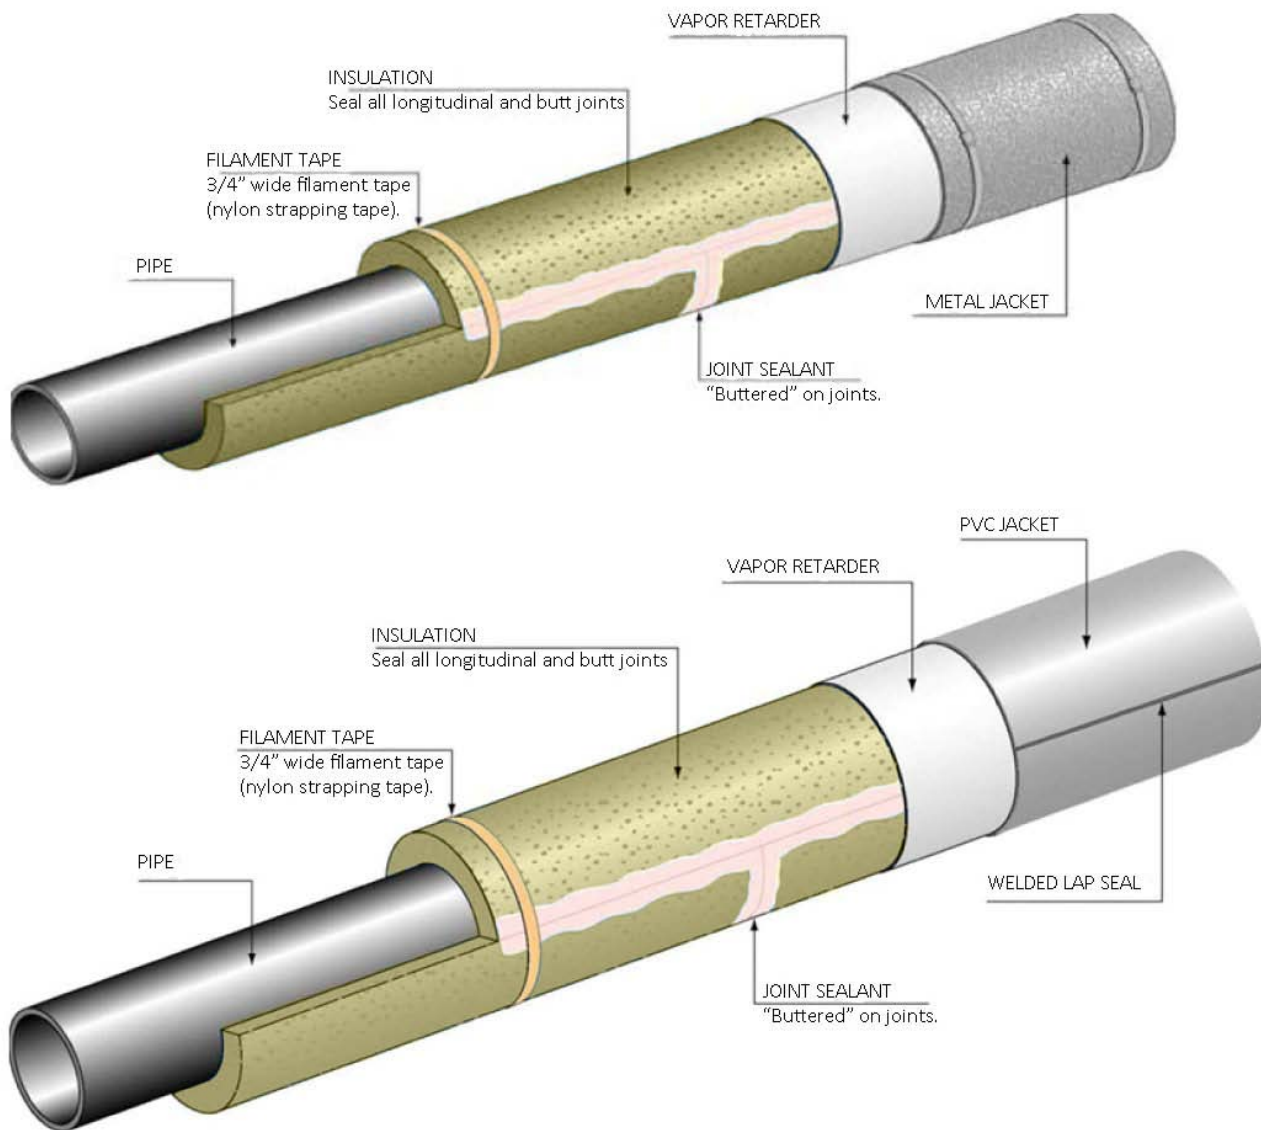

Figure 2 Detail Notes:
- 4.1.1 Stagger insulation half sections so that butt joints are staggered between top and bottom half sections by 6 to 18 inches on insulation layers that do not have a vapor retarder factory applied to them. On a single layer system, orient longitudinal joints between half sections in the 3 and 9 o'clock position on the pipe. Refer to Figure 2 in appendix B.